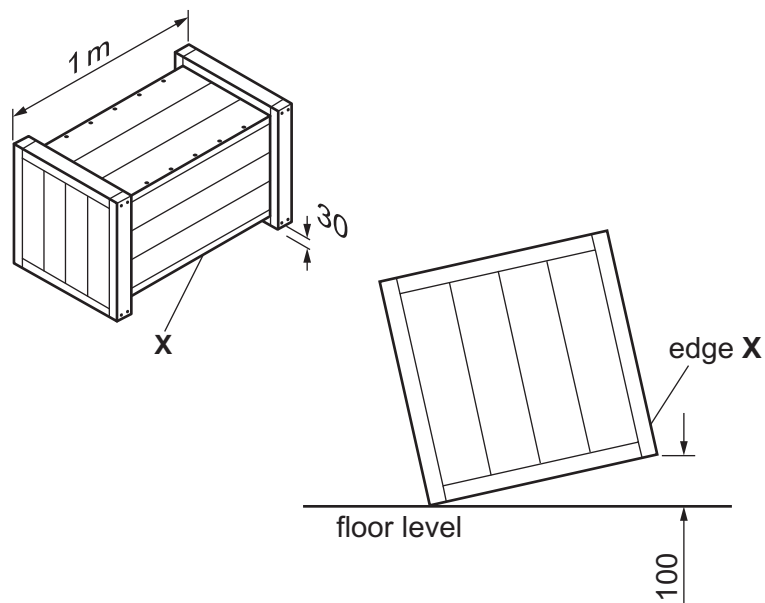

Fig. 11.3
- (c) Fig. 11.3 shows a heavy packing crate.
Edge **X** of the packing crate needs to be lifted by 100 mm to the position shown. Draw a design on Fig. 11.3 for a lever system that will allow the edge to be lifted by 100 mm. [3]